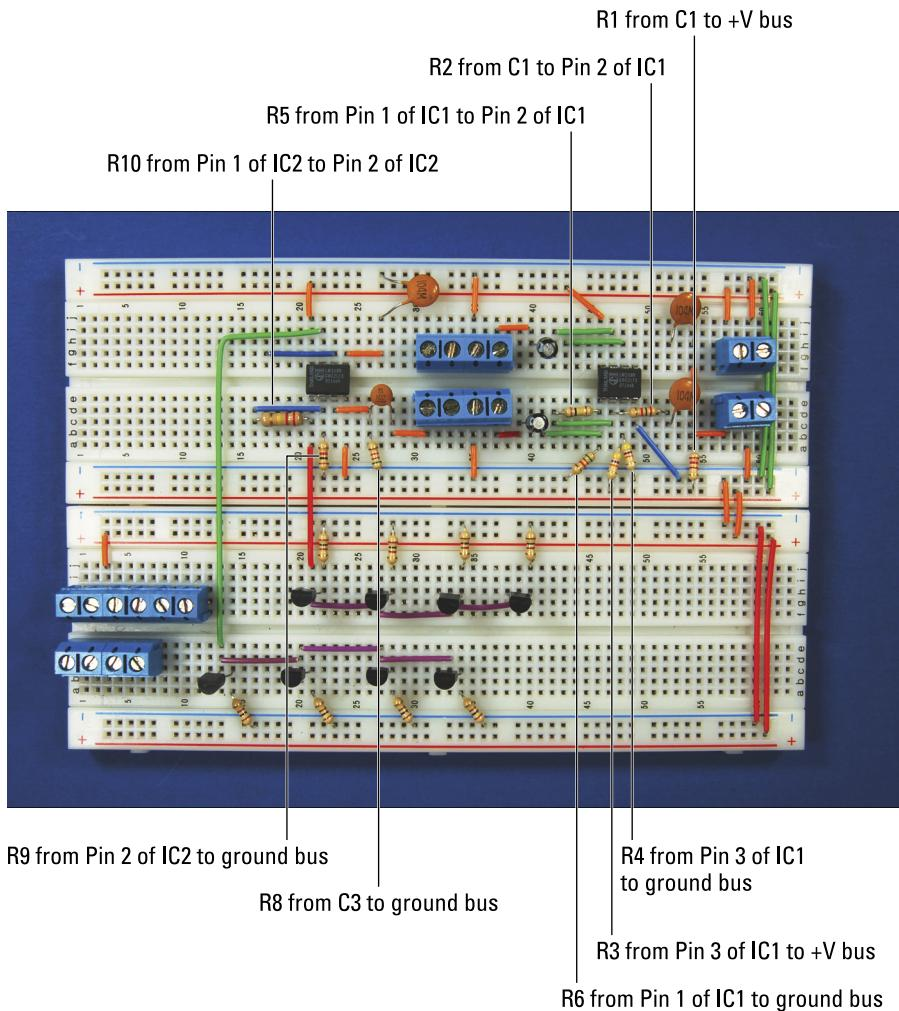

Figure 3-12:
9. Insert more resistors as follows (see Figure 3-12):